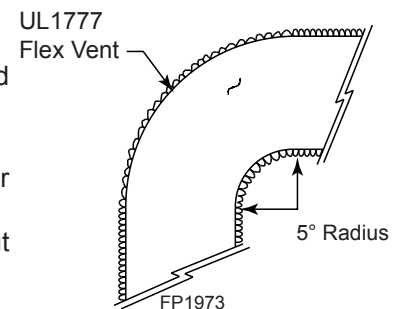

Figure 25 - Minimum Radius for Flex Vent Section
3. Do not allow the flexible vent to bend in radius tighter than 5" (127 mm). *Figure 25*